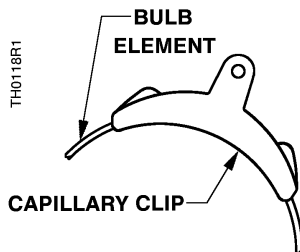
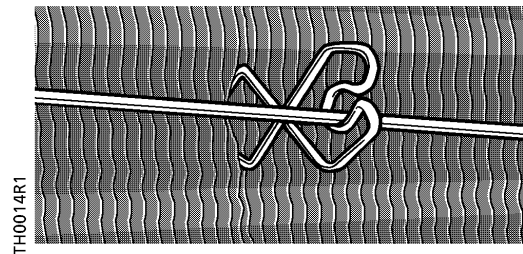

Figure 5. Capillary Clip Number 357-001 (Pkg of 100).
Figure 6. Clip Mounted on Coil.
- When the bulb is mounted in a unit ventilator, use coil clip Number 356-115 to support the bulb in the air stream through the coil. See Figures 6 and 7.
- Use a coil clip, Part Number 356-115 (Figures 6 and 7) or a capillary clip, Part Number 357-001 (Figure 5), to support the bulb if there is easy access to the coil.